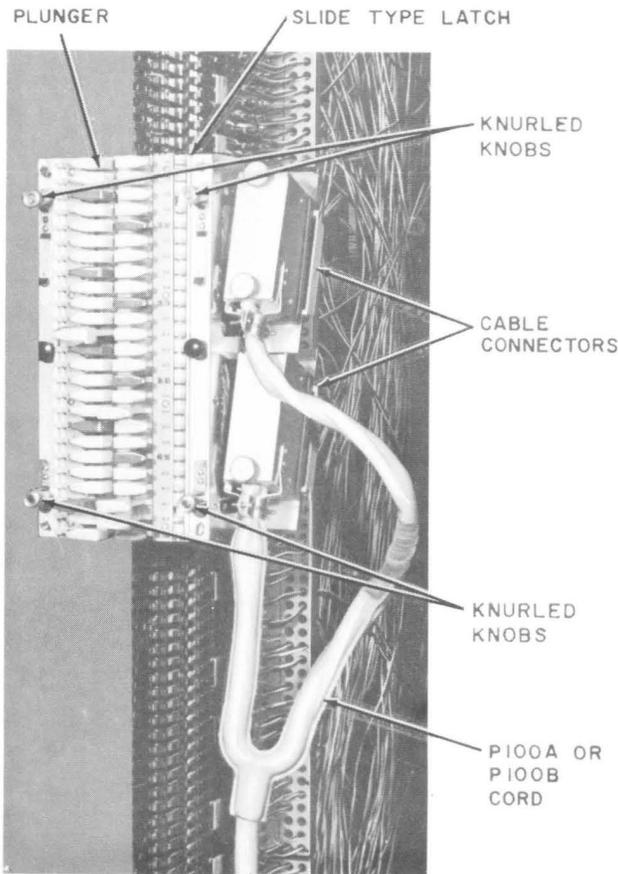

Fig. 5—F Test Connector on 444-Type Jack
4.01 The F Test Connector consists of a U-shaped main support (Fig. 5 and 6) containing 50 plungers, each equipped with a pair of contacts connected through flexible printed circuitry to a common terminal strip which in turn is wired to cable connectors.